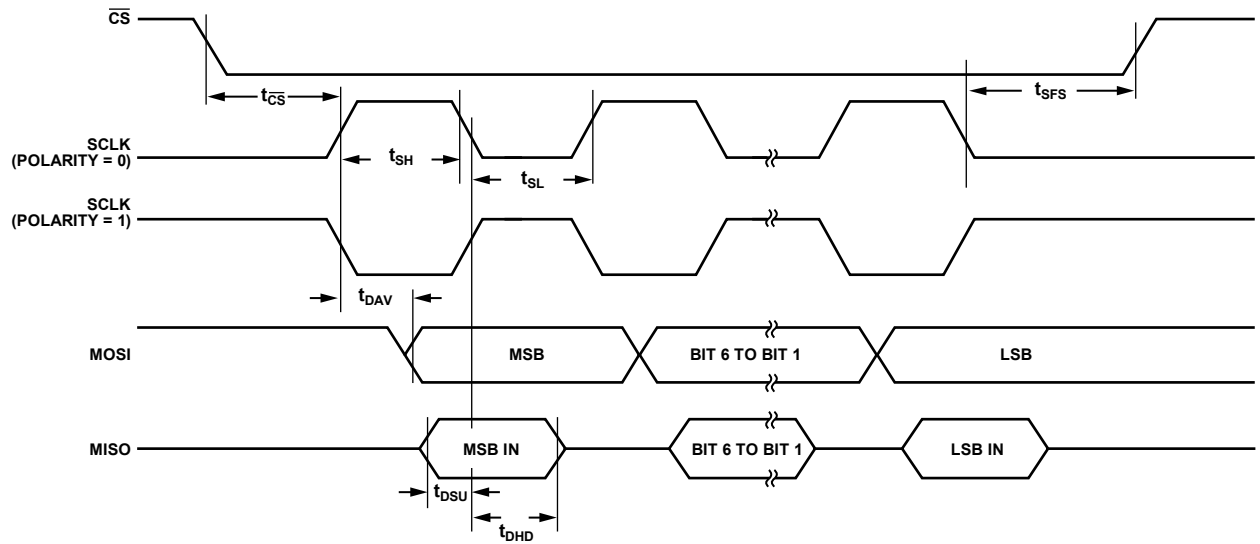
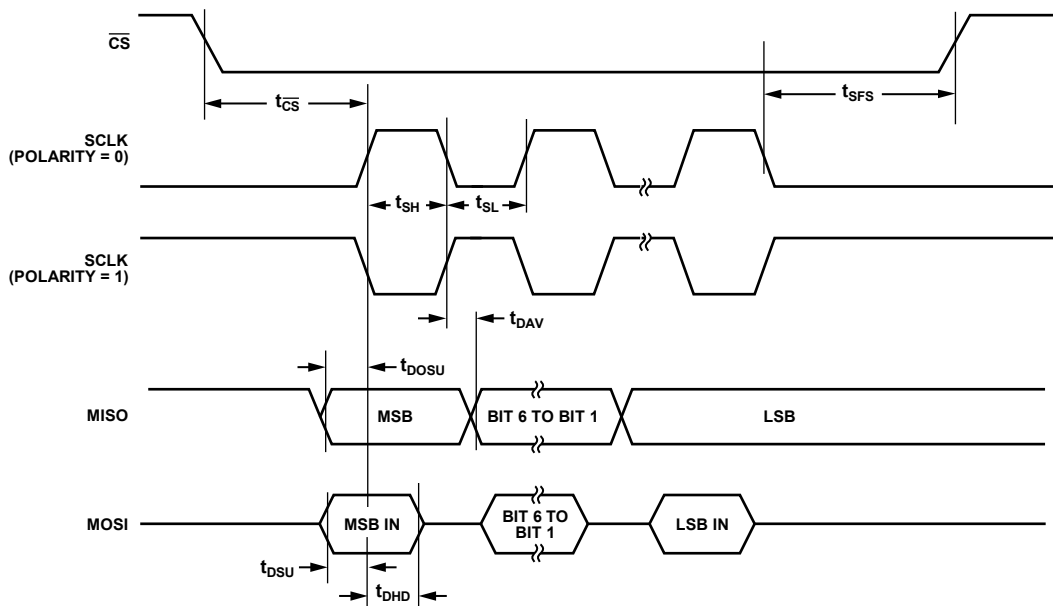

Figure 3. SPI Master Timing Diagram (Phase Mode = 1)
Figure 4. SPI Master Timing Diagram (Phase Mode = 0)
**Table 4. SPI Master Mode Timing (See Figure 3 and Figure 4)**